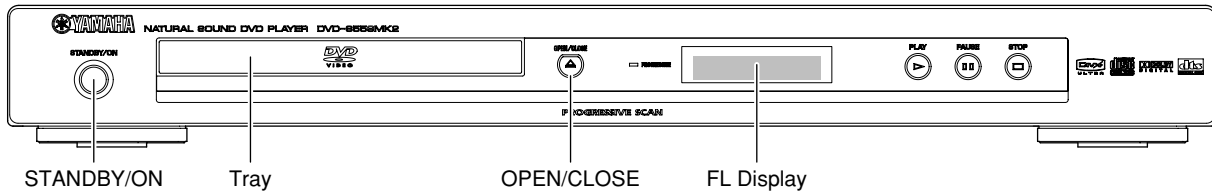

Fig. 1
1. Press the "OPEN/CLOSE" key to open the tray. (Fig. 1)